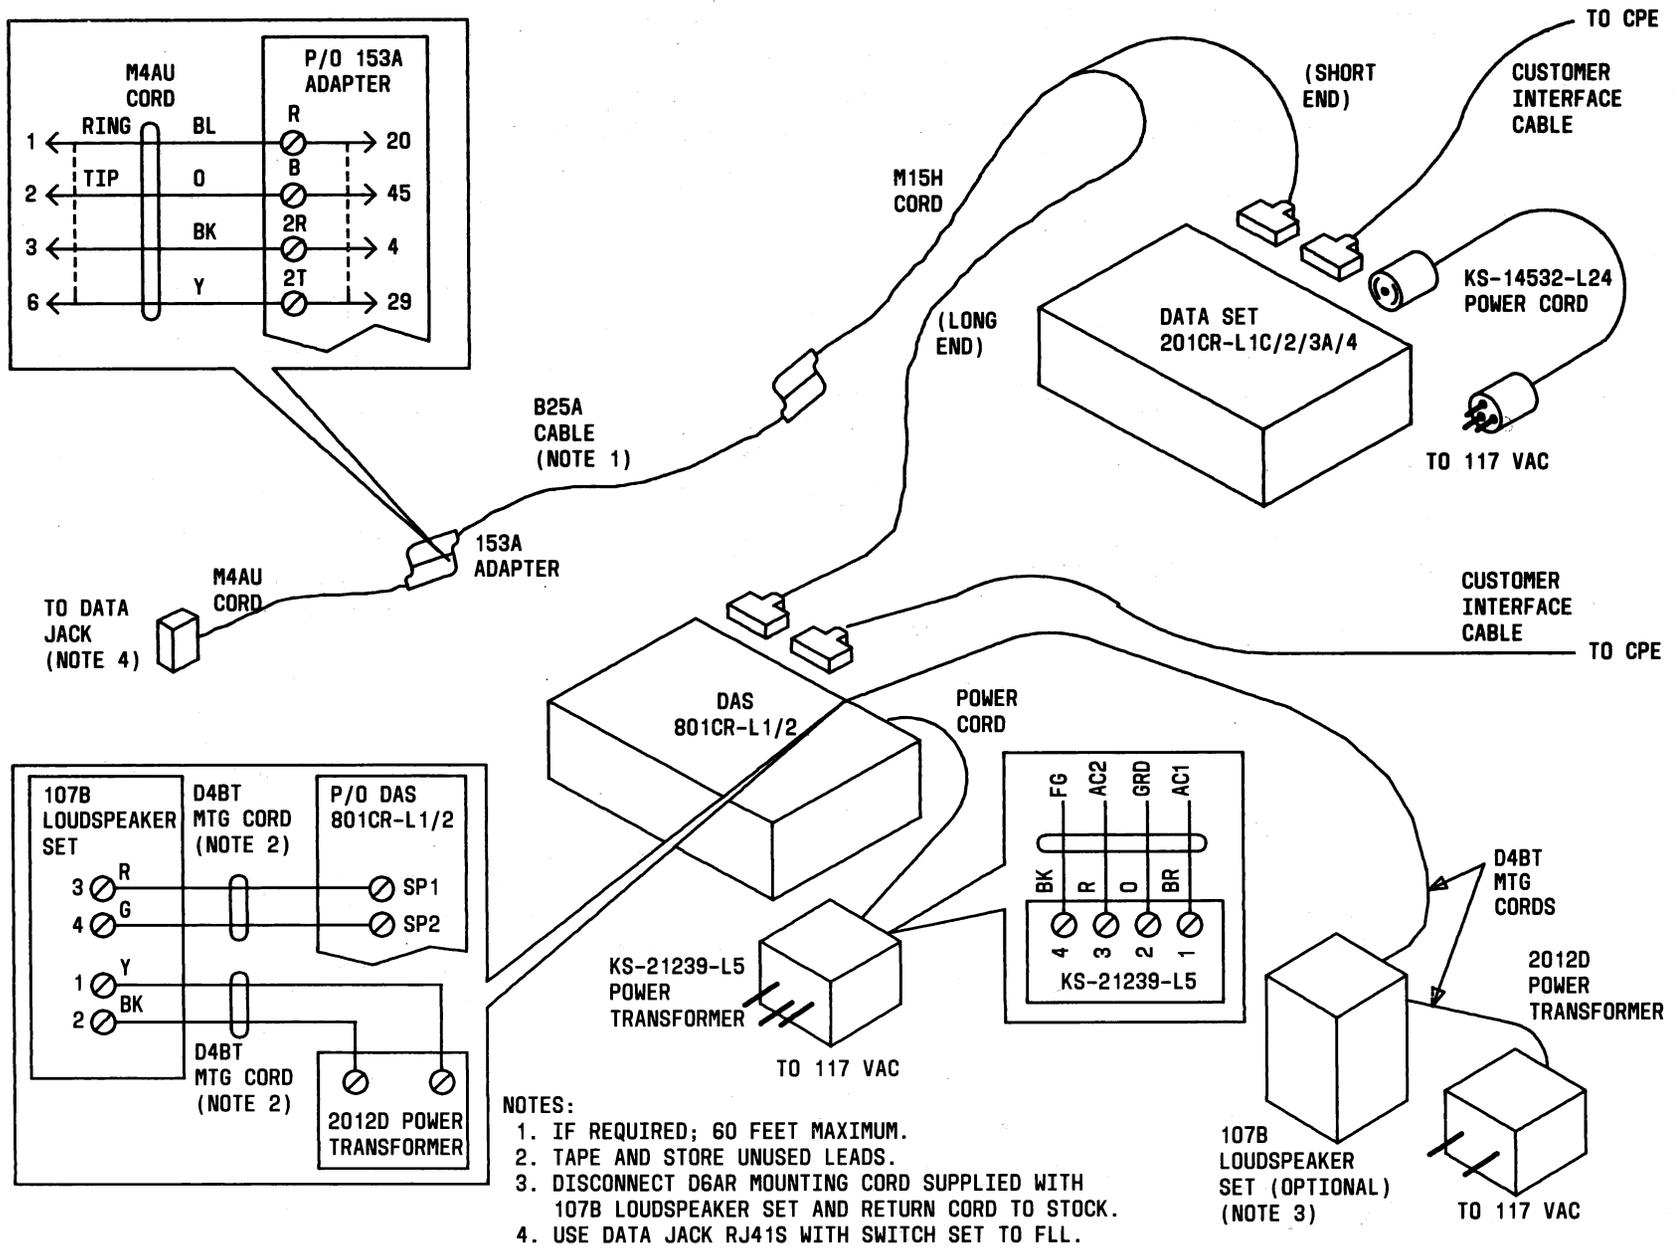

Fig. 7—Single Data Set With ACU—Connection Diagram
4.05 Single Data Set With ACU: The connection diagram for this arrangement is Fig. 7.